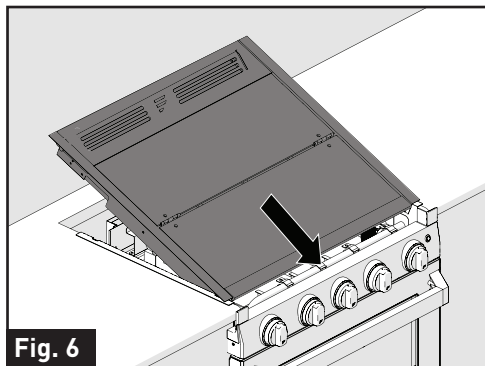

Fig. 6
7. Align the top glass cover assembly with the slots on the cooktop and place it into the range oven. (Fig. 6)